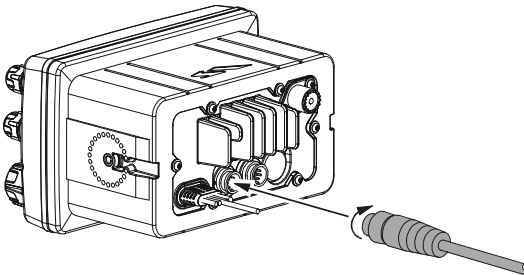

Figure 2
1. Connect the Routing Cable to the one of the Remote Mic eight pin connector on the rear panel, then tighten the Cable Nut (See Figure 2).